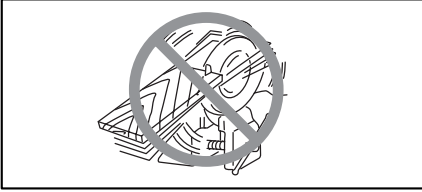

Fig. 7
17. Never attempt to saw with the circular saw held upside down in a vise. This is extremely dangerous and can lead to serious accidents. (Fig. 7)